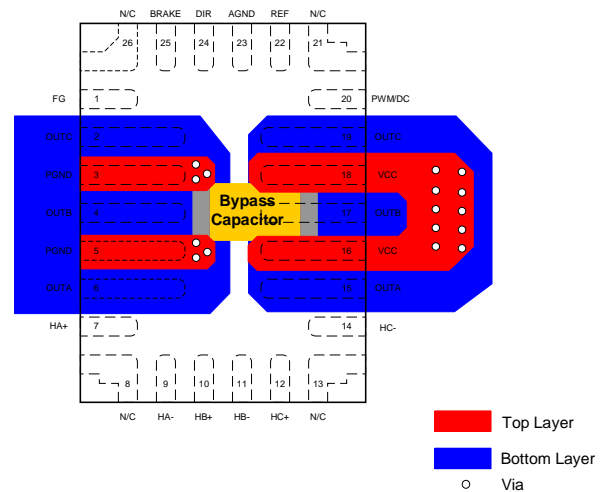
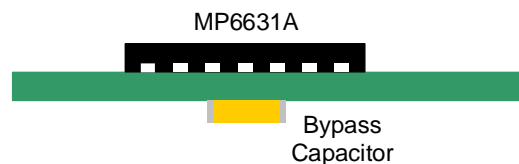

Figure 12: Recommended PCB Layout (Top View)
Figure 13: Recommended PCB Layout (Side View)
Efficient PCB layout is critical for stable operation. For the best results, refer to Figure 12 and Figure 13, and follow the guidelines below:
- Figure 12 shows the recommended PCB layout when the MP6631A is placed on the top layer and the bypass capacitor is placed on the bottom layer.
- Figure 13 shows the side view of the MP6631A's recommended PCB layout.